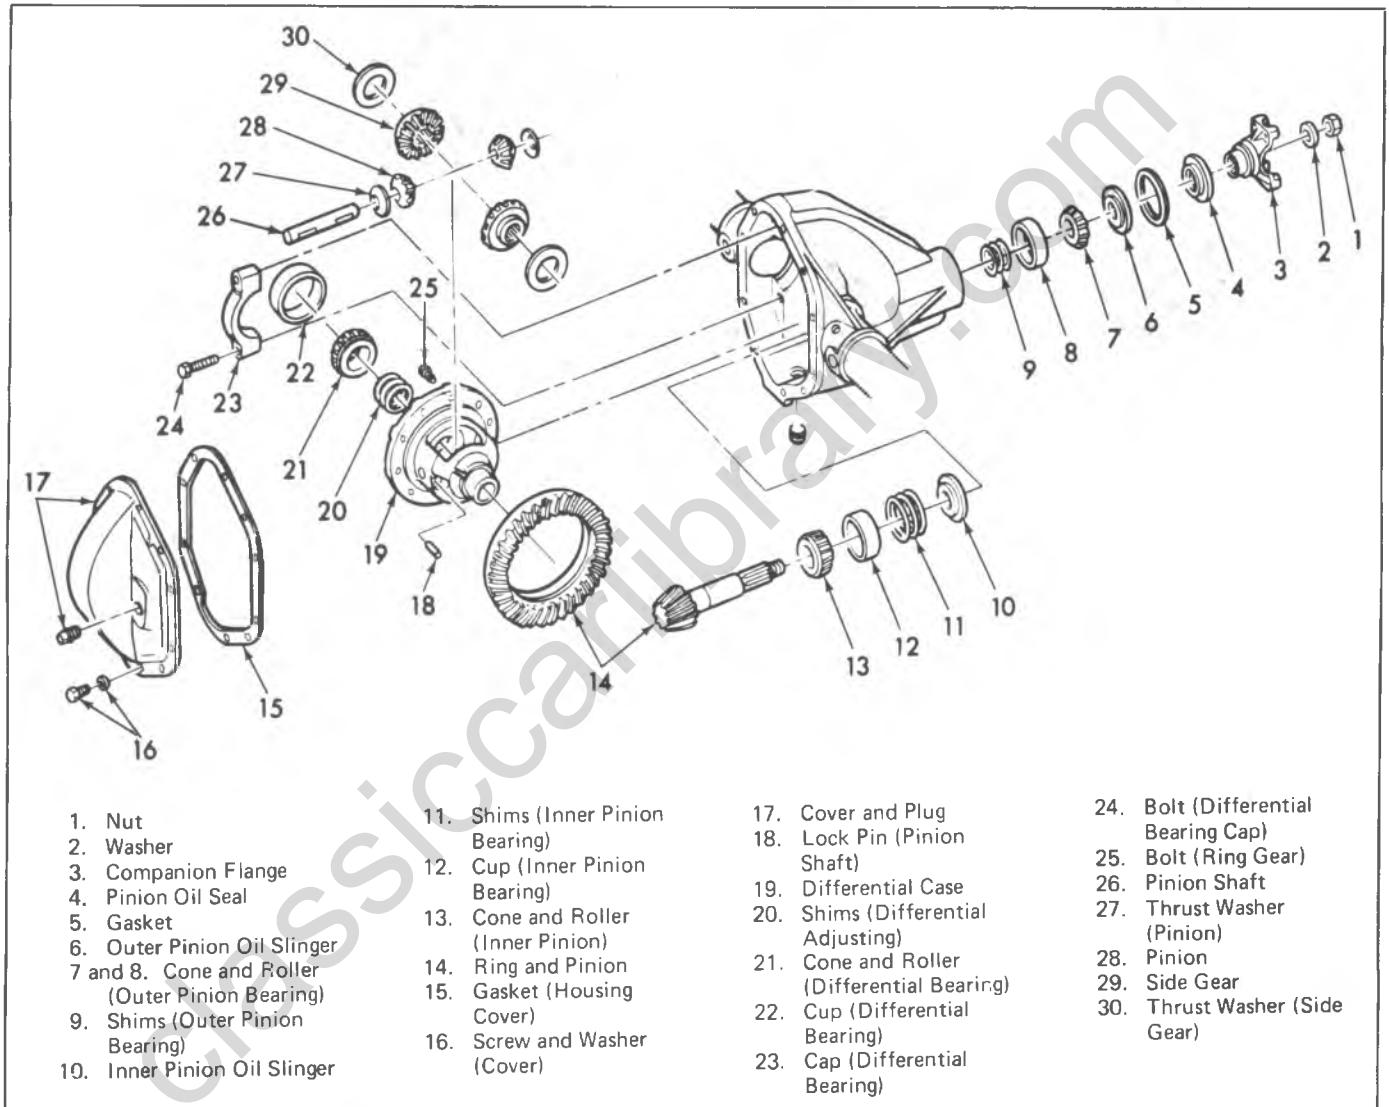

Fig. 14F—Dana Differential With 9-3/4" Ring Gear - Exploded View
1. The differential side bearing shims are located between the side bearing cone and roller assembly and the differential case. See figure 14F. These bearings are of the tapered roller design and are preloaded. In order to remove the differential case the carrier must be spread.